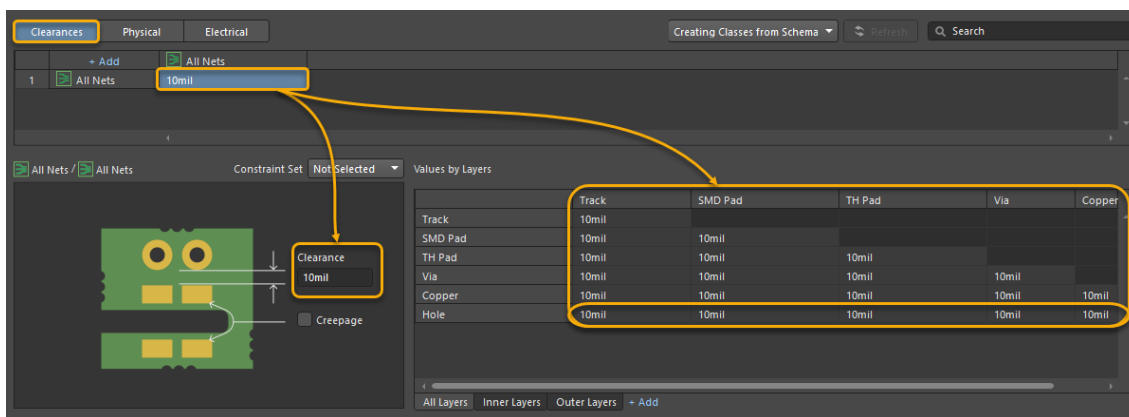

Figure 5. Clearance Constraint View - All versus All
- Switch to the *Clearances* view, and select the *All Nets* cell to see details for this constraint at the bottom of the window, see Figure 5.